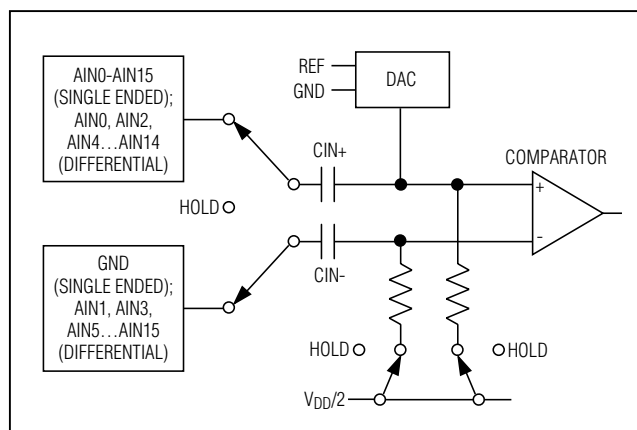

Figure 3. Equivalent Input Circuit
**Note 6:** See Figure 3 (Input Equivalent Circuit) and the Typical Operating Curve in the *Sampling Error vs. Source Impedance* section.
The MAX1227/MAX1229/MAX1231 use a fully differential ADC for all conversions. The analog inputs can be configured for either differential or single-ended conversions by writing to the setup register (see Table 3). Single-ended conversions are internally referenced to GND (see Figure 3).
The equivalent circuit of Figure 3 shows the MAX1227/MAX1229/MAX1231s' input architecture. In track mode, a positive input capacitor is connected to AIN0-AIN15 in single-ended mode (and AIN0, AIN2, AIN4...AIN14 in differential mode). A negative input capacitor is connected to GND in single-ended mode (or AIN1, AIN3, AIN5...AIN15 in differential mode). For external T/H timing, use clock mode 01. After the T/H enters hold mode, the difference between the sampled positive and negative input voltages is converted. The time required for the T/H to acquire an input signal is determined by how quickly its input capacitance is charged. If the input signal's source impedance is high, the required acquisition time lengthens. The acquisition